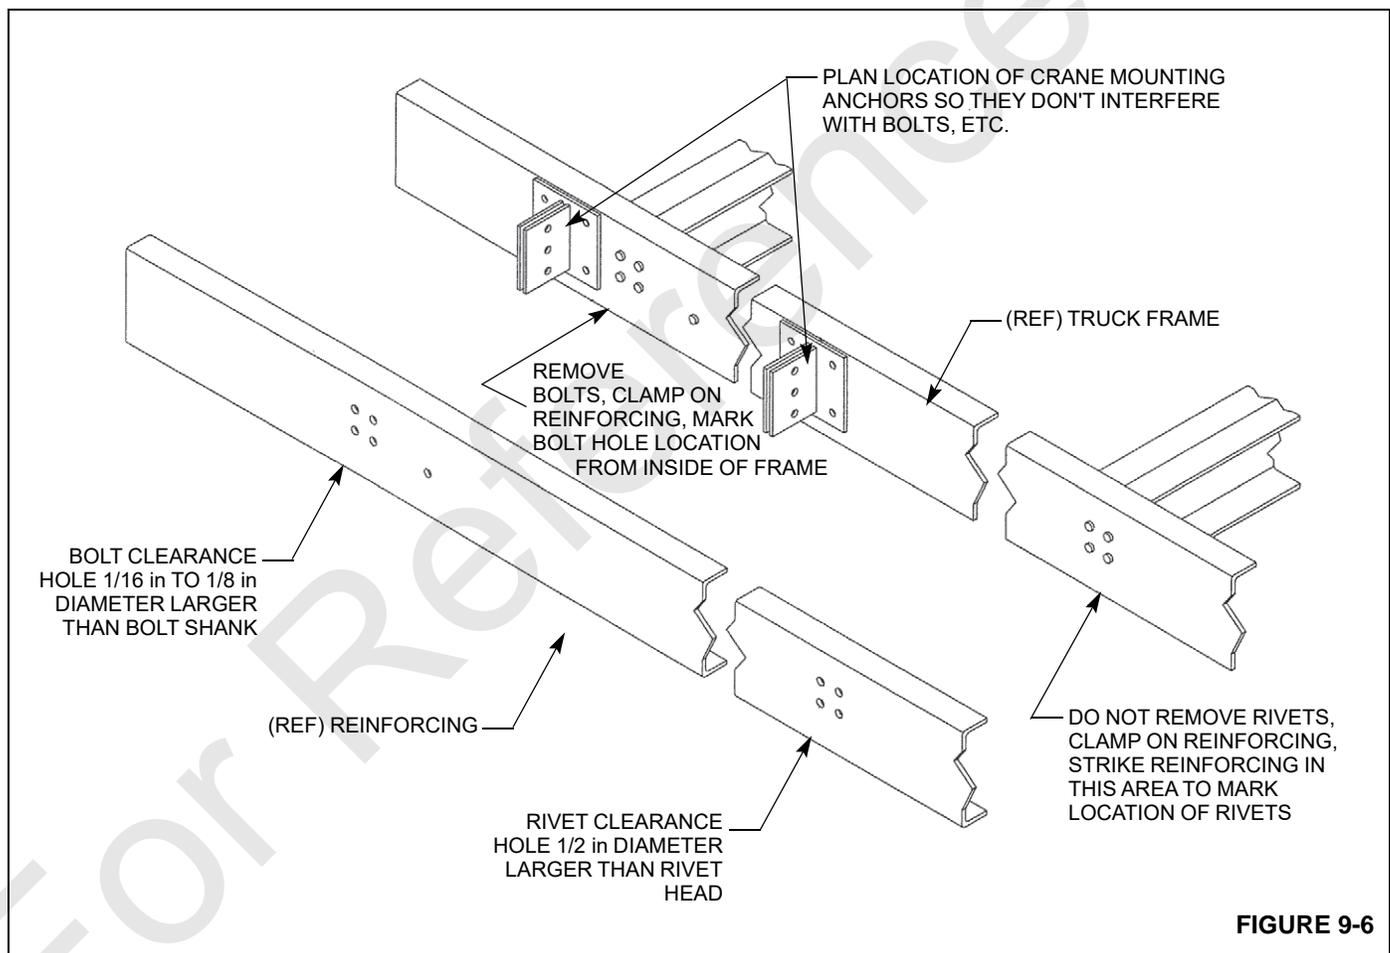

FIGURE 9-6
3. If rivets are used to secure truck frame cross members. Place the reinforcing on the truck frame and clamp in place. See Figure 9-6.
Remove the reinforcing and drill or torch cut clearance holes for bolts or rivets. See Figure 9-6.